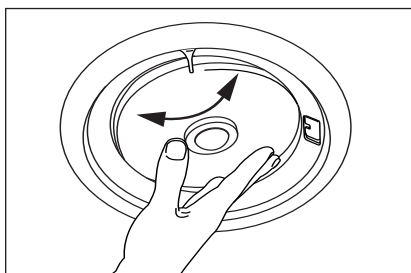

Figure 20 Directing the woofer.
12. Direct the Woofer. The woofer is directed by gently pushing on the outer edge of the grille face. (See Figure 20). It will